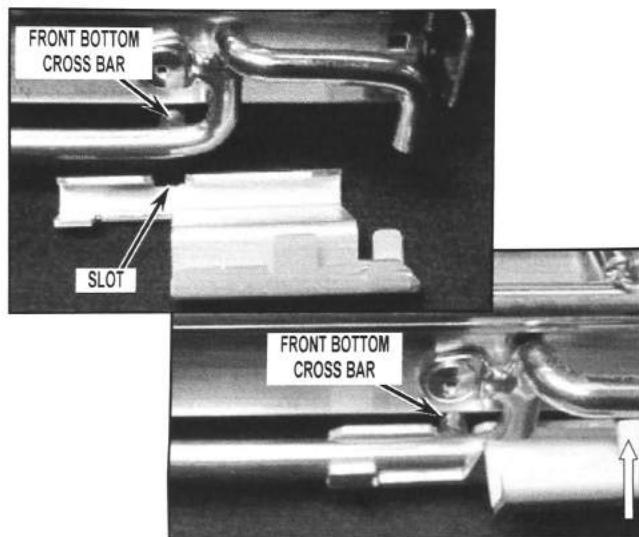

FIGURE 12
- a) Turn the rack over to normal orientation. Slide front bracket up from the bottom. Ensure that the slot engages the front bottom cross bar of the rack. See Figure 12.